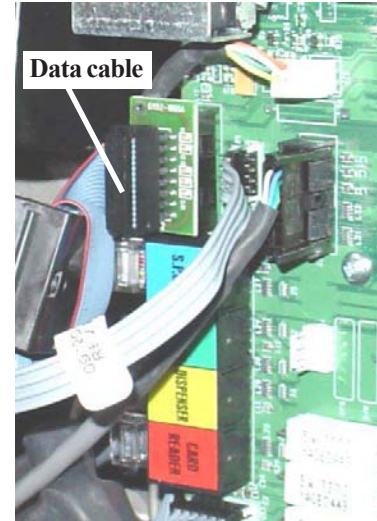

Figure 3. Disconnect data cable (Docking board assembly)
4. Disconnect the other end of the data cable at the Docking board assembly (Figure 3). Remove the data cable. **Note: You may have to use the diagonal cutters to cut away any ty wraps that secured the cable.**